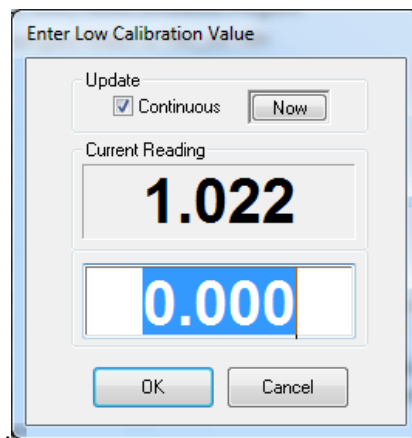

Figure 57: Low calibration value for voltage
- z) Observe the value in the Current Reading field. Wait until the value stabilizes. The value should be close to the voltage applied by the calibrator (Figure 57).